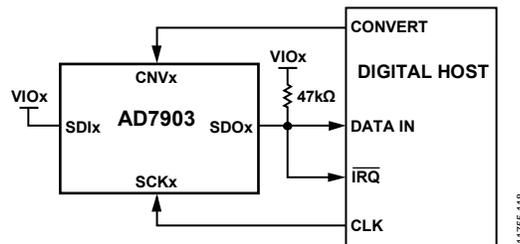
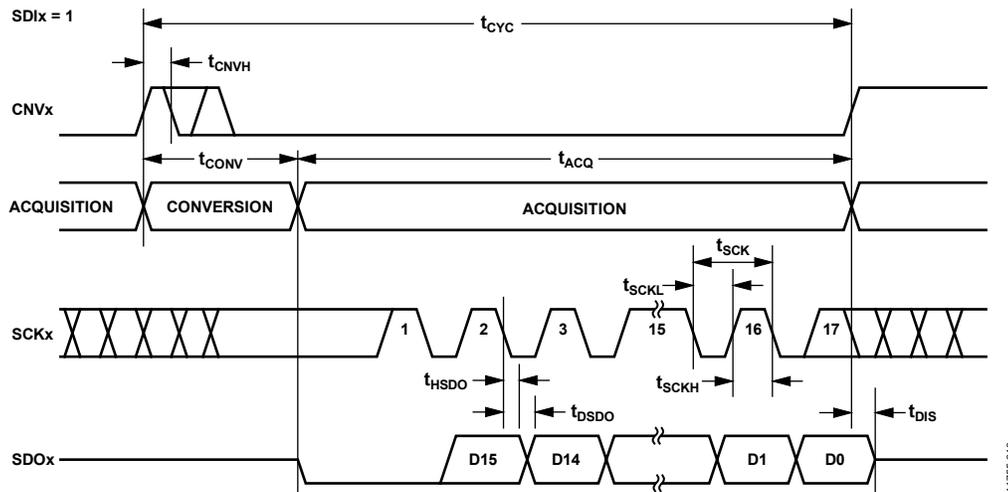
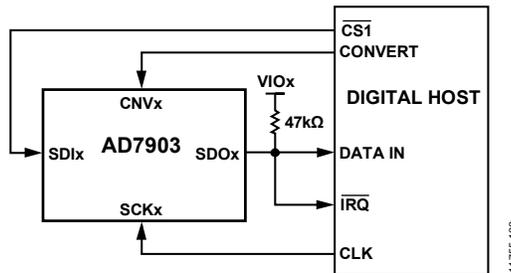
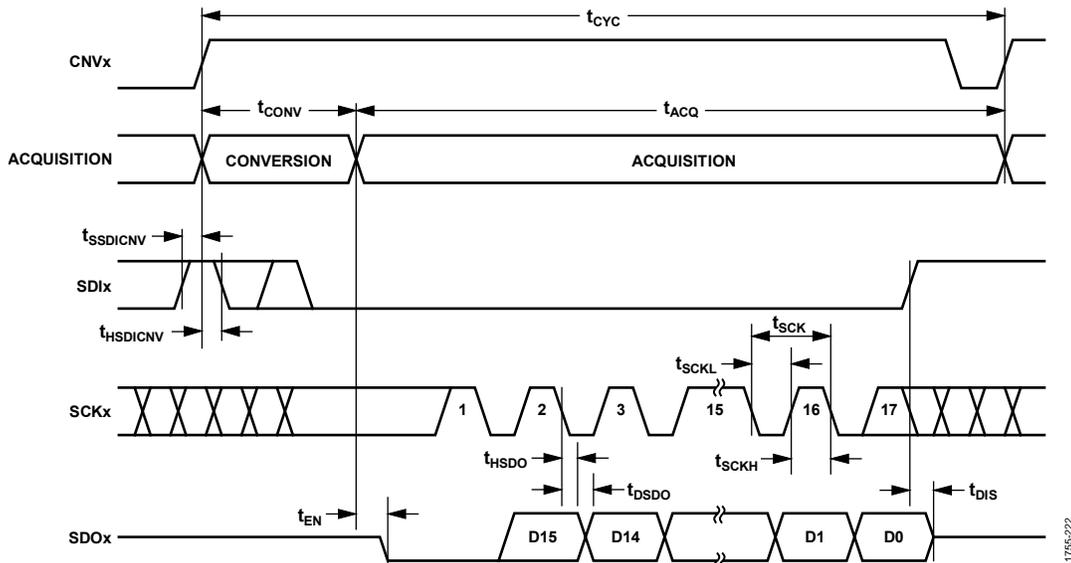

Figure 41. \overline{CS} Mode, 3-Wire Interface with Busy Indicator Connection Diagram (\overline{SDIx} High)
Figure 42. \overline{CS} Mode, 3-Wire Interface with Busy Indicator Serial Interface Timing (\overline{SDIx} High)
Figure 45. \overline{CS} Mode, 4-Wire Interface with Busy Indicator Connection Diagram
Figure 46. \overline{CS} Mode, 4-Wire Interface with Busy Indicator Serial Interface Timing
- In \overline{CS} mode if CNVx or SDIx is low when the ADC conversion ends (see Figure 42 and Figure 46).
The connection diagram is shown in Figure 41, and the corresponding timing is shown in Figure 42.
The connection diagram is shown in Figure 45, and the corresponding timing is given in Figure 46.